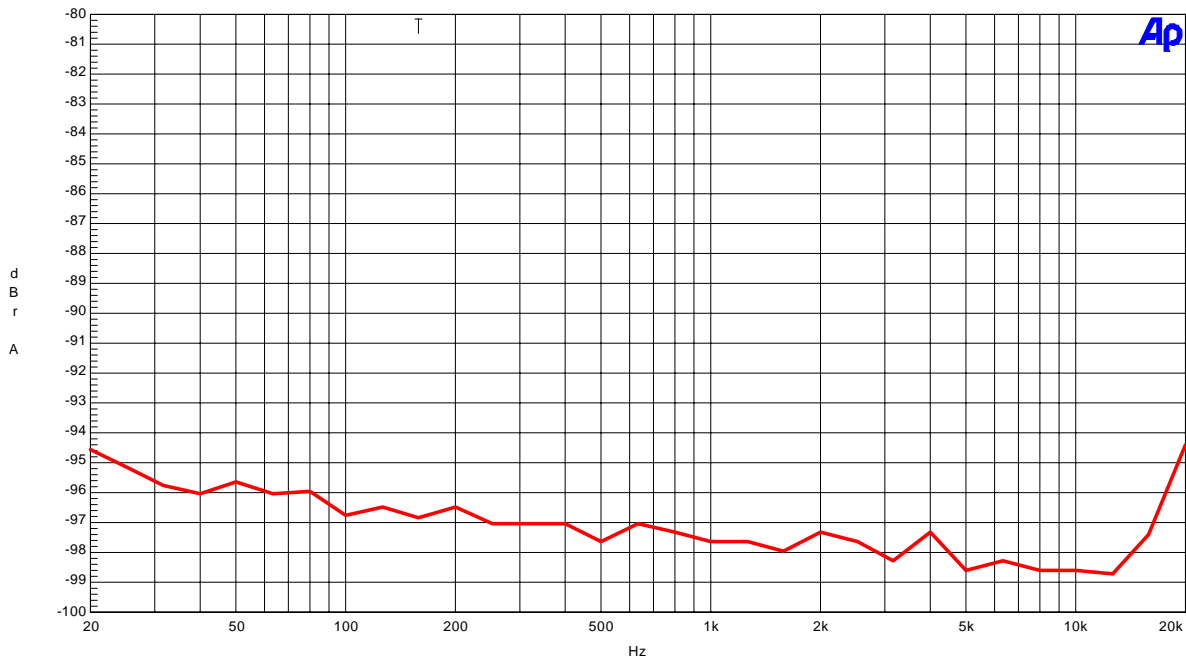

Figure 2-1-2. THD+N vs. Input frequency
- Figure 2-1-2. THD+N vs. Input frequency